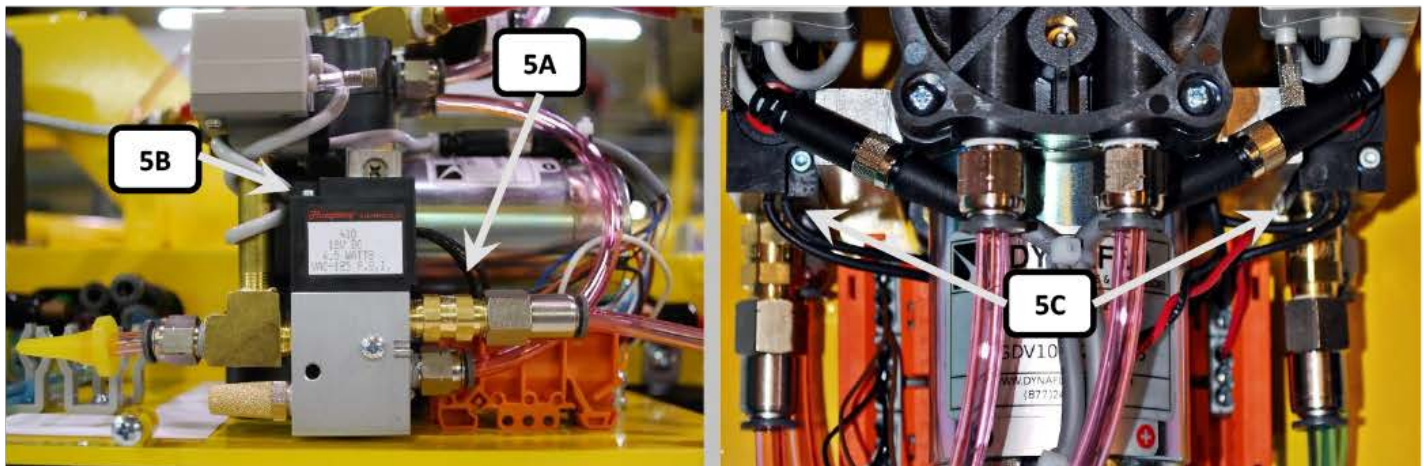

FIGURE 5
- 10) Remove the hose from the control valve that connects to the vacuum pump intake (vacuum) port. This will be the fitting of the control valve with the check valve installed. See FIGURE 5.